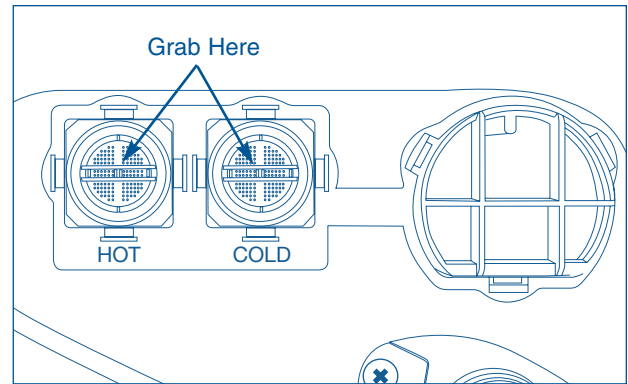

Figure 4-34.
2. Each screen has a reinforced bar across the face. Using a pliers, grab one of the legs of the bar and pull the screen out. (See Figure 4-34)